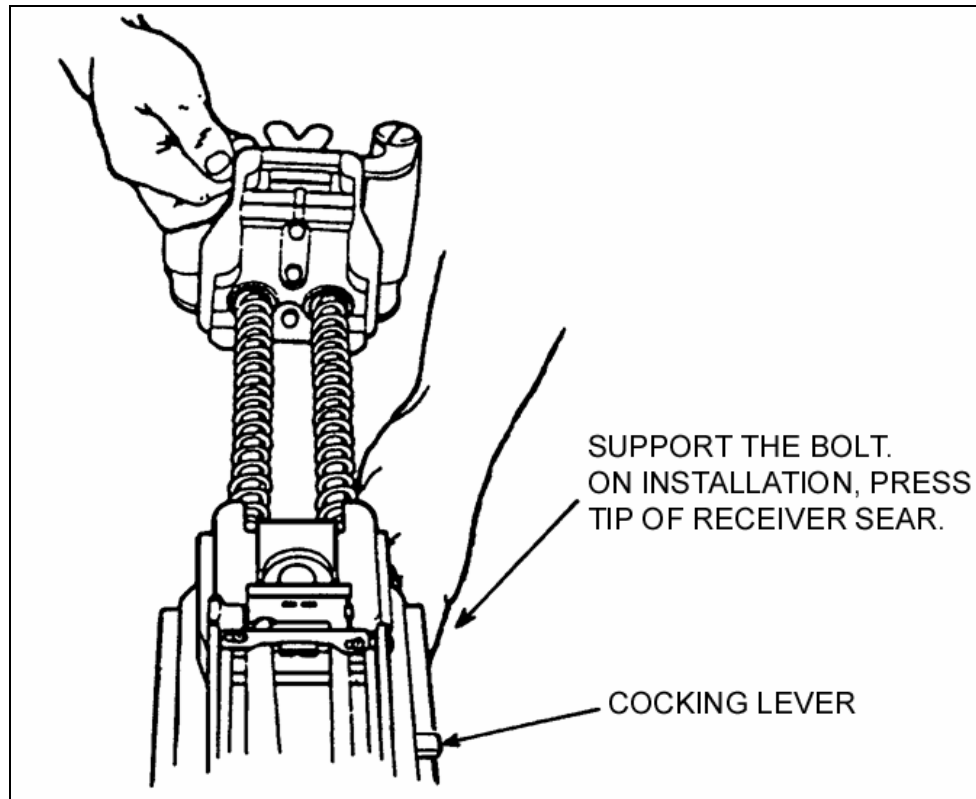

Figure 2-25. Installation of the bolt and backplate assembly.
(10) Install bolt and backplate assembly. With the sear assembly on the gun, assemble bolt and backplate using the following procedure (Figure 2-25):